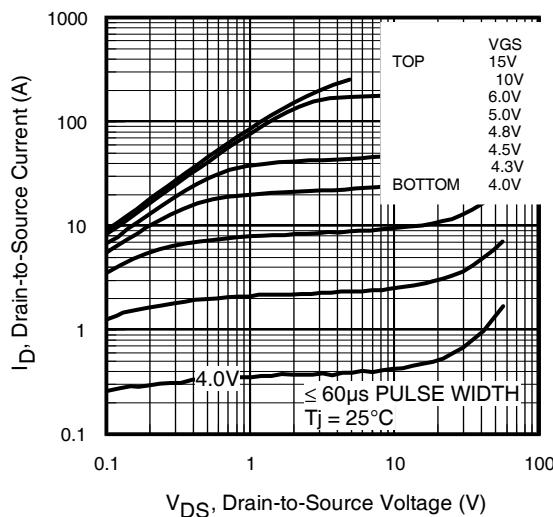

Fig 1. Typical Output Characteristics
| $C_{oss \text{ eff. (ER)}}$ | Effective Output Capacitance (Energy Related) | — | 260 | — | | $V_{GS} = 0V, V_{DS} = 0V \text{ to } 80V$ ⑥, See Fig.1 |